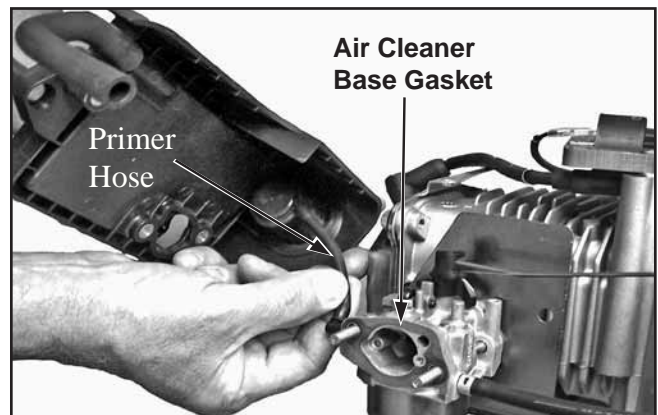

Figure 10-49. Installing Primer Hose (If Equipped).
1. Attach the primer hose to the carburetor (if equipped). See Figure 10-49.
2. Slide the air cleaner gasket onto the carburetor studs. See Figure 10-49.